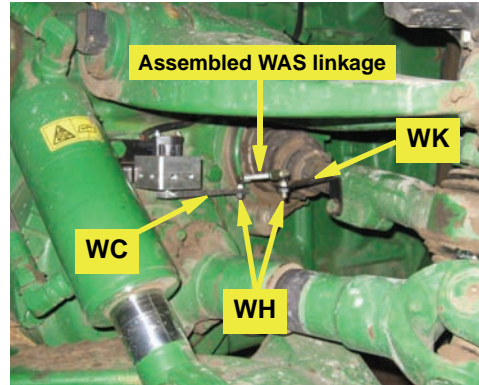

Figure 2e: Assembled WAS linkage installed
- e. Using the remaining hardware **WH**, install the assembled WAS linkage from step 1d between the rod bracket **WK** and the last hole in the WAS connector arm **WC**. Install the linkage with the swivel studs downwards but leave the swivel stud nuts **WH** loose (Figure 2e).